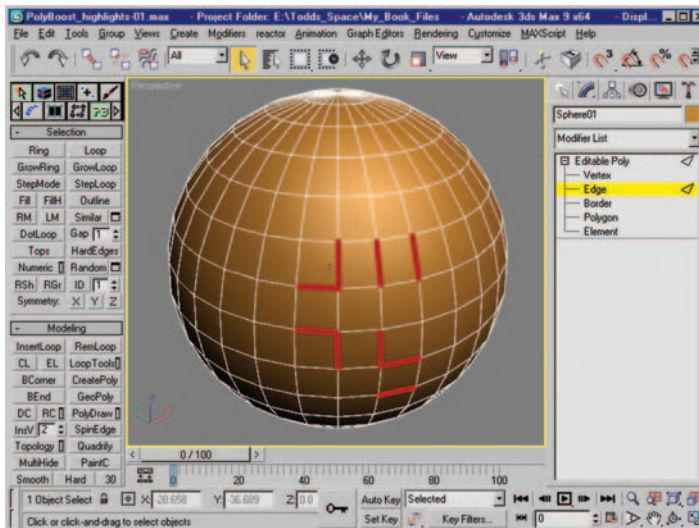

Figure 12.6 Edge selection.
- Select the edge selection seen in Figure 12.6.